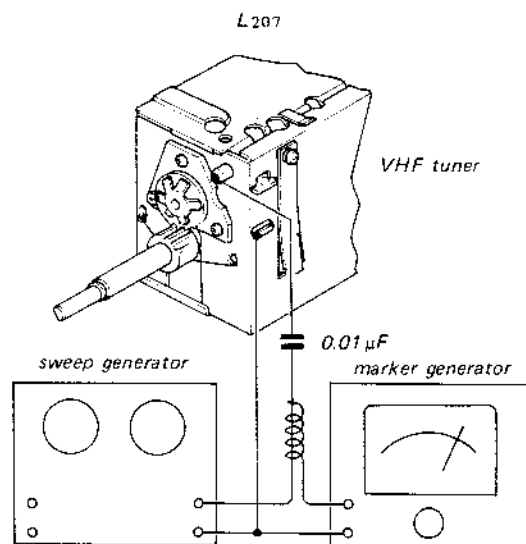

Fig. 3-2
2. Connect a sweep generator to the tuner's test point through a 0.01- μ F capacitor as shown in Fig. 3-2.
7. Connect a sweep generator and a marker generator to the tuner's test point as shown in Fig. 3-2.